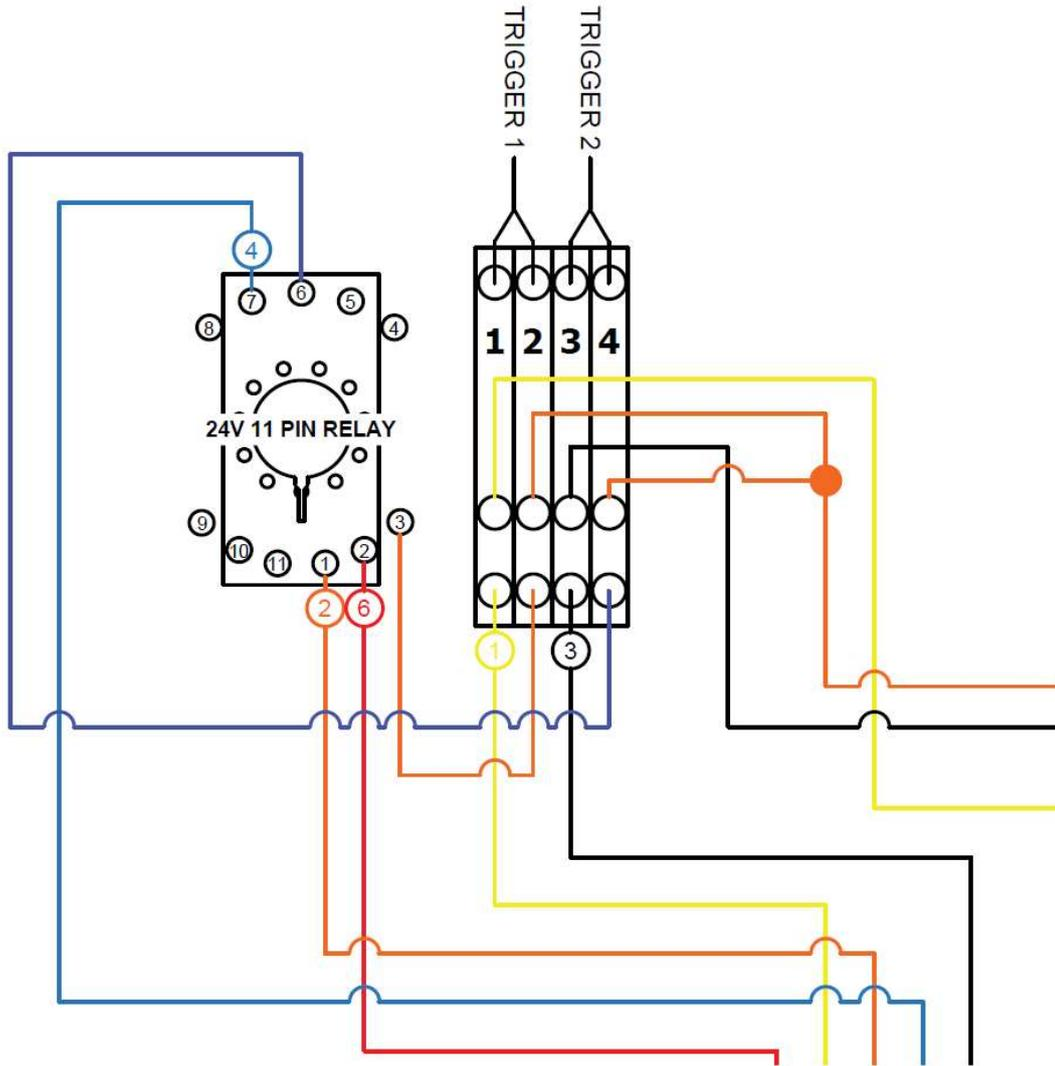

Figure 10: Triggers
5.3. In *Figure 10: Triggers*, the triggers for accessing the turnstile and gate for either direction are located. The triggers are 24V DC.